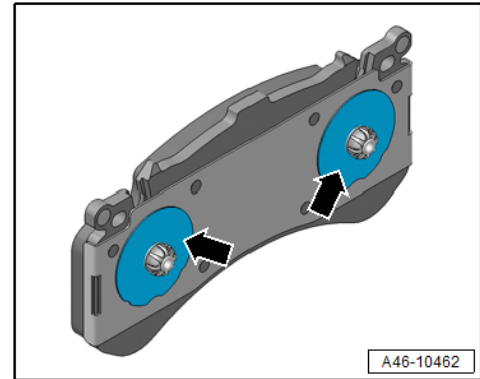

Figure 1. Shims on back of front brake pads.
Tip: For an example of the sound, see the video located at: <https://audi-external.kzoplatform.com/swf/player/314> (Figure 1).
Figure 1. QR code for viewing the video with a QR code reader on phones and tablets. Alternatively, the video can be accessed through computer internet browsers at the link provided in this bulletin.
- Some vehicles may have two shims glued to the back of the front brake pads (Figure 1). **Do not** transfer these shims to the new pads.